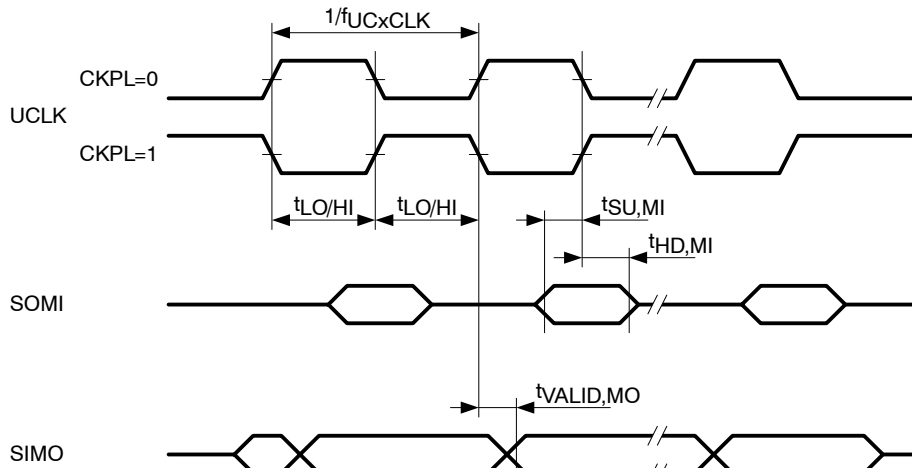
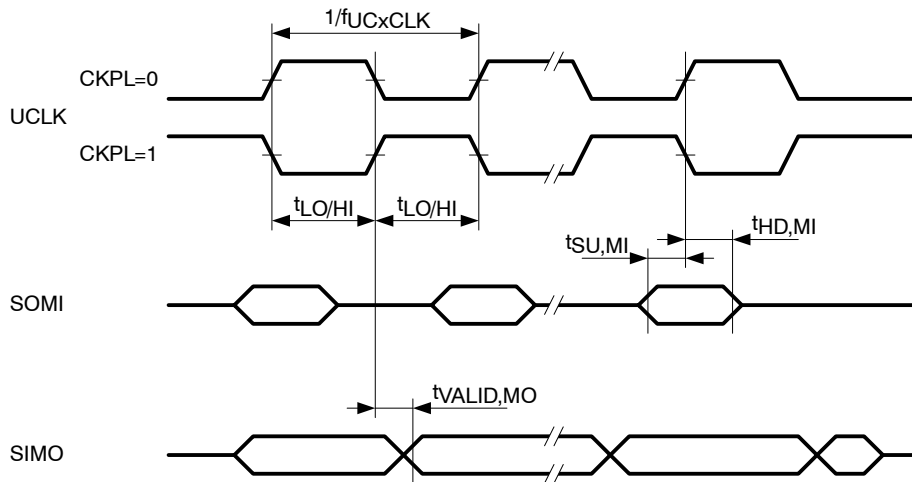

Figure 19. SPI Master Mode, CKPH = 0
Figure 20. SPI Master Mode, CKPH = 1
**USCI (SPI master mode) (see Figure 19 and Figure 20)**